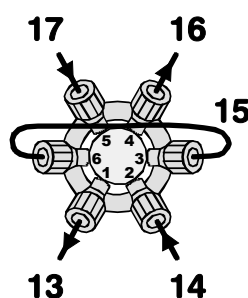

Fig. 5: Connection at injection valve
- Connect the plug inscribed with "**Inject NO**" of the 6.2128.100 cable to the desired remote line 1...7 "**Events - Run**" at the 762 IC Interface and the plug inscribed with "**Inject COM**" to the same remote line "**Events - COM**" (see *Fig. 5 Instructions for use 762*).
- Connect the plug inscribed with "**LOAD NO**" of the 6.2128.100 cable at the desired remote line 1...7 "**Events - Run**" at the 762 IC Interface and the plug inscribed with "**LOAD COM**" to the same remote line "**Events - COM**" (see Fig. 5 Instructions for use 762).
- Connect the plug inscribed with "**Inject NO**" of the 6.2128.100 cable to the desired remote line 1...7 "**Events - Run**" at the 762 IC Interface and the plug inscribed with "**Inject COM**" to the same remote line "**Events - COM**" (see Fig. 5 Instructions for use 762).
- Connect the other end of the 6.2115.070 cable to the remote lines "**Events - Start - Run**" and "**Events - Start - Com**" at the 762 IC Interface (see Fig. 5 Instructions for use 762).
The standard accessories supplied with the 812 Valve Unit can be used to equip one valve for manual filling of the sample loop. Proceed as follows (see Fig. 5):